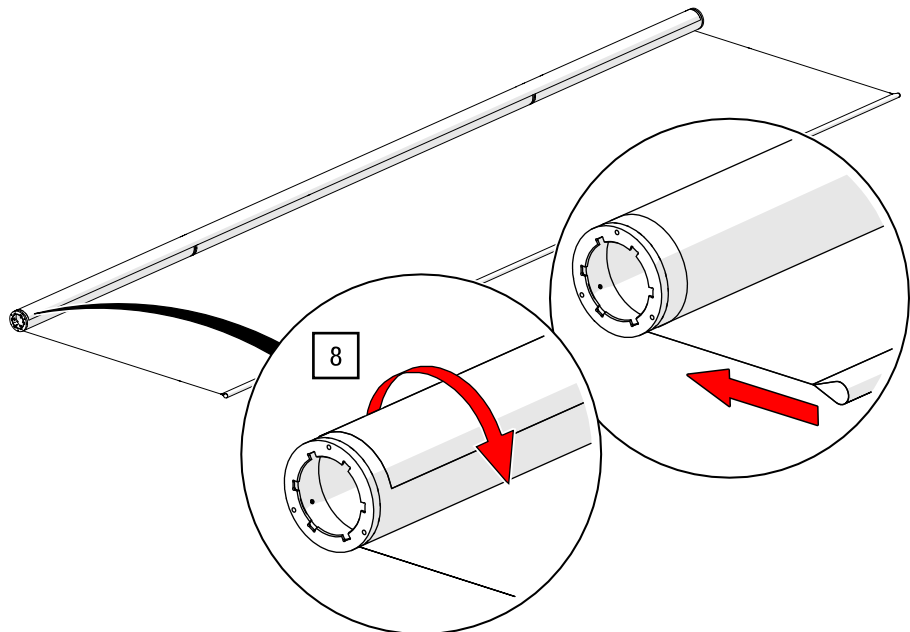

Fig. 27: Installation of the screen fabric – rolling up the fabric
8. With the assistance of a second person, roll the screen fabric evenly onto the tube (see Fig. 27).